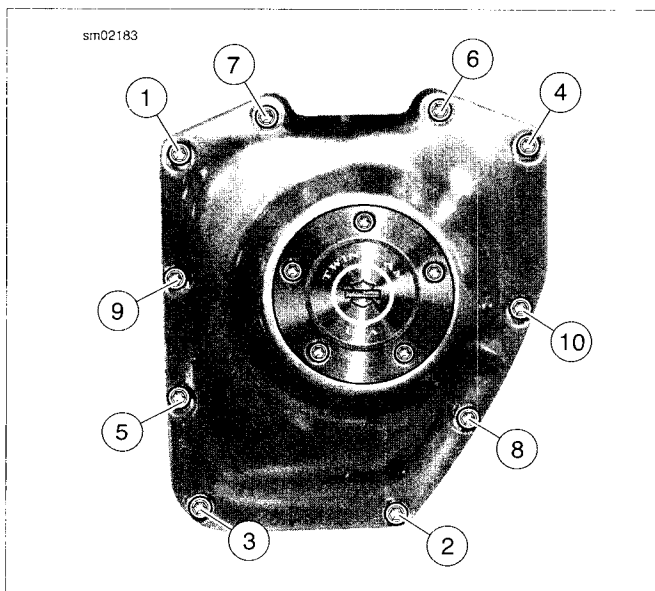

Figure 3-50. Cam Cover Screws
4. See Figure 3-50. Remove the ten allen head socket screws with captive washers to release the cam cover. Remove and discard the cam cover gasket.